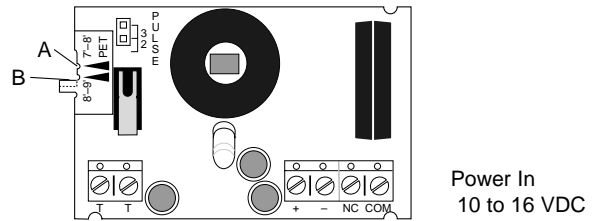

Figure 4 . Circuit Board
The factory setting of the detector is for mounting heights of 7 to 8 feet (2.1 to 2.4m). For this setting, the locking tab on the back housing is in the notch by the 7'-8' arrow on the circuit board (position A in Figure 4).
For proper operation at mounting heights above 8 feet (2.4m), the locking tab must be in the notch by the 8'-9' arrow (position B in Figure 4). To position the circuit board in this manner, the scribed tab on the edge of the circuit board must be broken off.
5. Strip back outer jacket and individual wires of cable and connect conductors to the proper terminals (see Figure 4). The alarm contacts are not polarity sensitive.